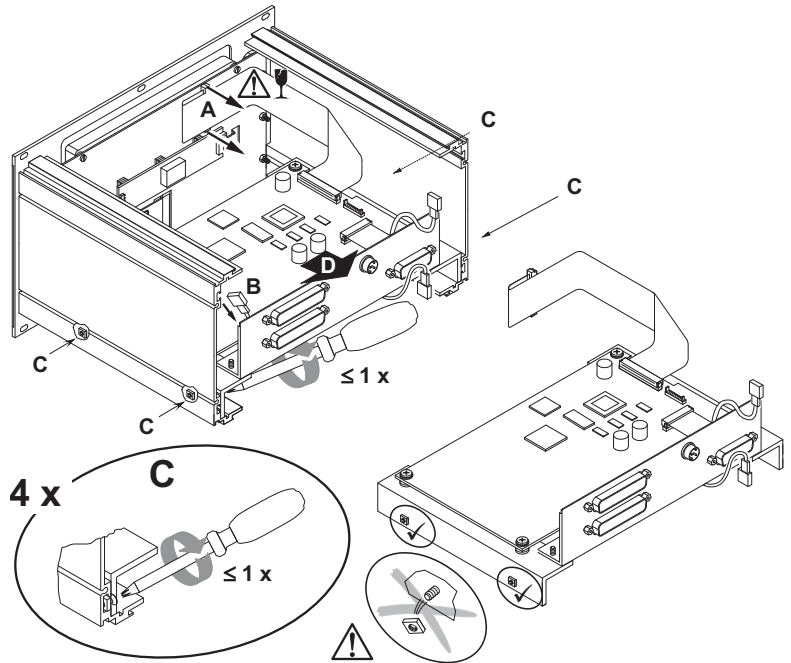

Fig. 8-4: Unscrew and removal of the main pcb unit
6. Loosen carefully the locker of the connecting flat cable on the display pcb (A). Carefully remove the ground cable from its socket on the left side panel (B). Avoid damage of the locker and the connecting flat cable because of canting. Loosen from below with a **maximum of ONE turn** (C) the fastening screws at the angle profile of the main pcb unit. **These screws only must be loosened but in no case they have to be unscrewed!** Carefully remove the main pcb unit out of the guide tracks (D). **Look after the square nuts, they have to stay at the fastening screws!** (Fig. 8-4 on the next page)